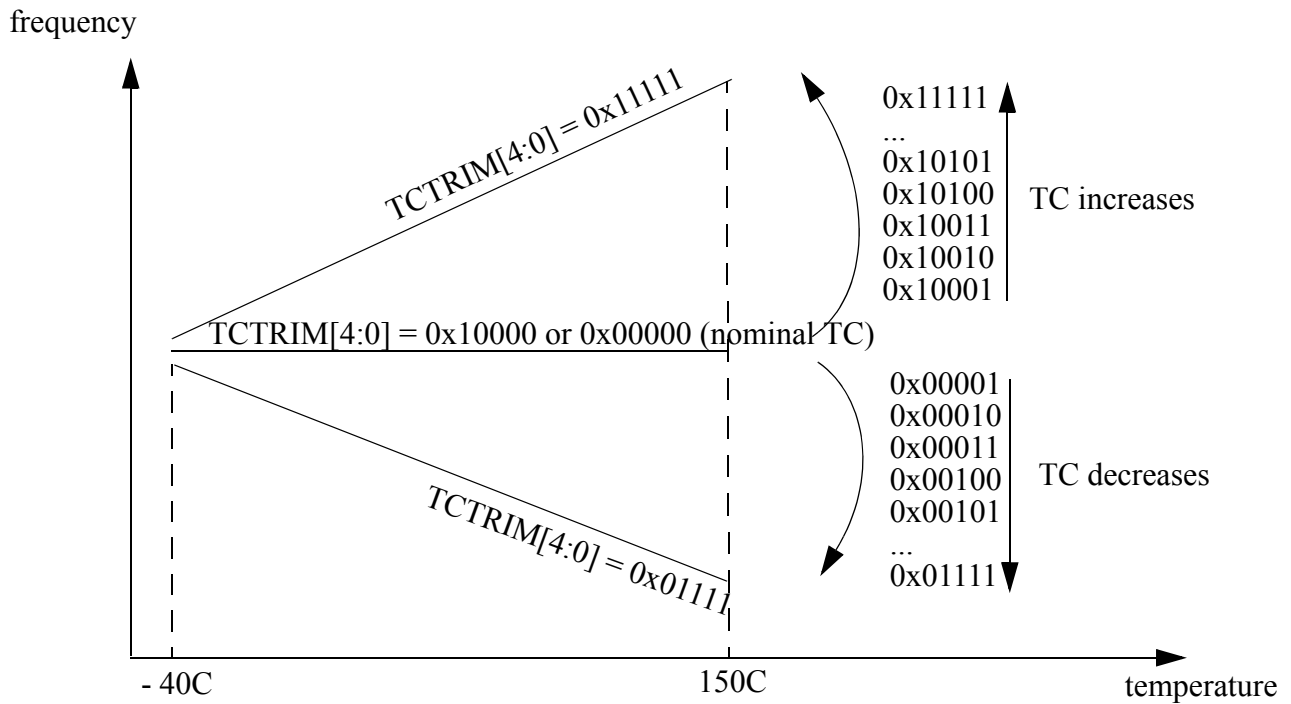

**Figure 7-30. Influence of TCTRIM[4:0] on the Temperature Coefficient**
| 15-11TCTRIM[4:0] | IRC1M temperature coefficient Trim BitsTrim bits for the Temperature Coefficient (TC) of the IRC1M frequency.<a href="#">Table 7-28</a> shows the influence of the bits TCTRIM[4:0] on the relationship between frequency and temperature.<a href="#">Figure 7-30</a> shows an approximate TC variation, relative to the nominal TC of the IRC1M (i.e. for TCTRIM[4:0]=0x00000 or 0x10000).                                                                                                                                                                                                                                                                                                                                                                                                                                                |